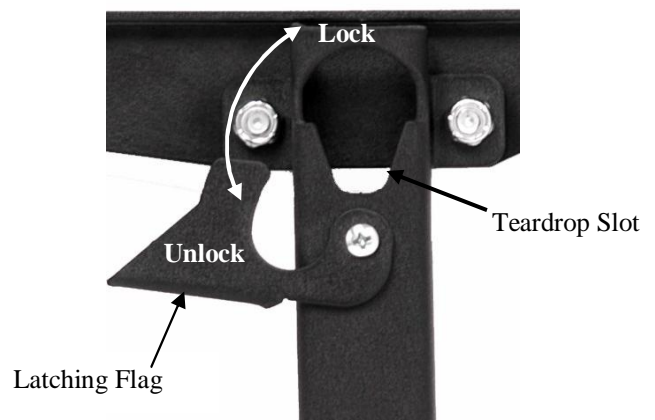

Figure 7. Raise Latching Flag to Lock
2. Raise latching flag to secure the display (see Figure 7). If the flag does not fully engage, check to ensure the mounting buttons are fully seated in the slots.